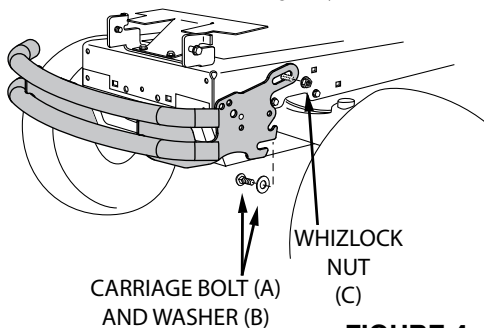

FIGURE 4
Step 4: (Fig. 4)
1. Place washers (B) onto two carriage bolts (A).
2. Place the bumper over the front of the tractor frame and insert the bolts through the rear holes in the tractor frame and the slots in the bumper. Install whizlock nuts (C) onto the bolts, but do not tighten yet.